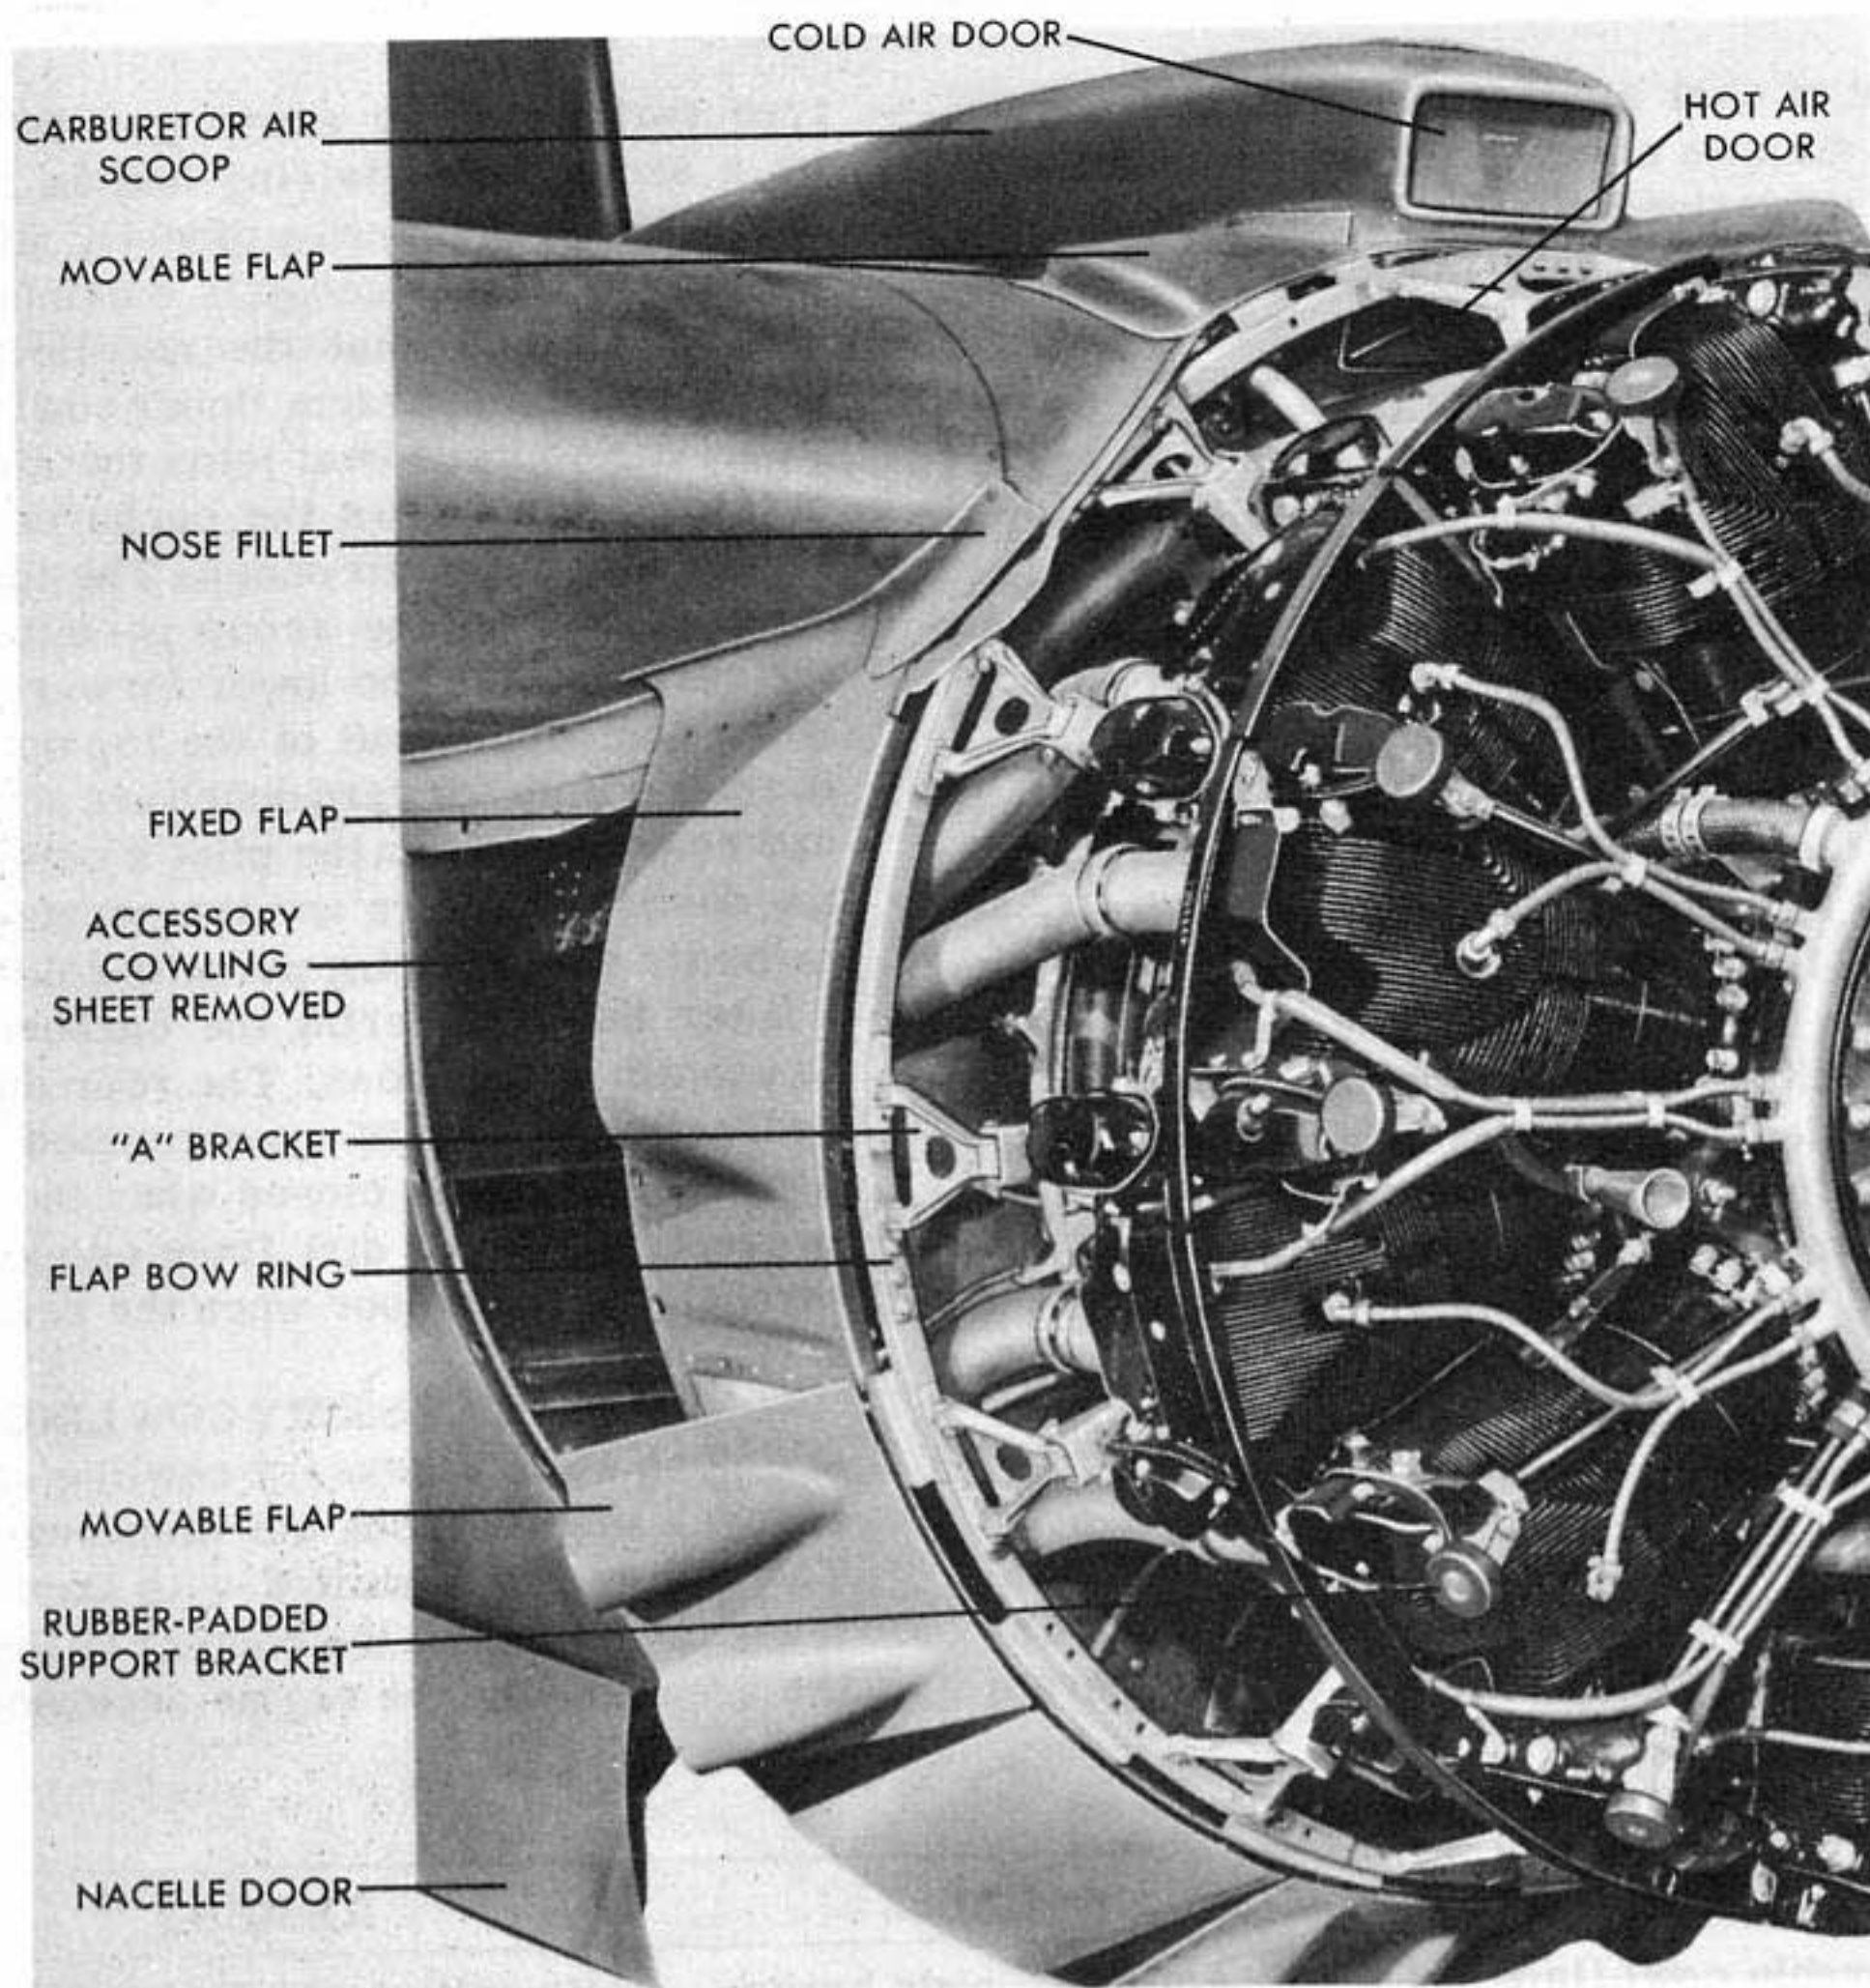

Figure 55 - ENGINE COWLING
(1) GENERAL. (See figure 55.) - Engine cowling consists of a flap bow ring, lower movable flaps, upper movable flaps, fixed flaps and nose fillets, diaphragm (inner cowl ring), antidrag ring, accessory cowling sheets, dishpan cover (used on winterized airplanes only), and the carburetor air scoop. Main purposes of the cowling are to provide a smooth contour covering the engine, which fairings into the nacelle and wing, and to control air passing through the engine and into the carburetor. The cowling is constructed for quick installation and removal, permitting access to all parts of the engine.
(2) **FLAP BOW RING.** (See figure 55.) - The flapbow ring is constructed of aluminum alloy, installed on the engine by 14 "A" brackets using 1/4-inch bolts and castellated nuts. The ring is electrically bonded by four flexible metal straps spaced equally around the ring.
(3) **MOVABLE COWL FLAPS.** (See figure 55.) The five lower movable flaps are sheet alclad, hinged to the flap bow ring by clevis bolts. The two upper movable flaps are sheet alclad and are hinged in a similar manner but must be cut and formed to fit each airplane. All seven movable flaps are actuated hydraulically and controlled by the pilot.
(4) **FIXED COWL FLAPS.** (See figure 55.) - There are two sheet alclad fixed flaps (one inboard, one outboard), which are a continuation of the lower movable flaps. The leading edge of each fixed flap is attached to the engine mount by rods. The trailing edge is secured to the diaphragm by screws. A nose fillet is attached to the upper end of each fixed flap and extends to the leading edge of the wing.
(1) INSTALLATION OF ACCESSORY COWLING SHEETS. - Place each sheet in position and tighten the Dzus fasteners. There are 15 fasteners on the inboard sheet, 17 fasteners on the outboard sheet, and 12 fasteners on the lower sheet. The sheets may be installed in any sequence.
(2) INSTALLATION OF CARBURETOR AIR SCOOP (nonram type). (See figure 55.)
(3) INSTALLATION OF CARBURETOR AIR SCOOP (ram type). (See figure 55.)
(7) INSTALLATION OF FIXED COWL FLAPS. (See figure 55.)
(8) INSTALLATION OF MOVABLE COWL FLAPS (five lower and two upper). (See figure 55.) - Install clevis bolts in the two hinges on each flap and connect the actuating rod to each flap.
(9) INSTALLATION OF FLAP BOW RING. (See figure 55.)